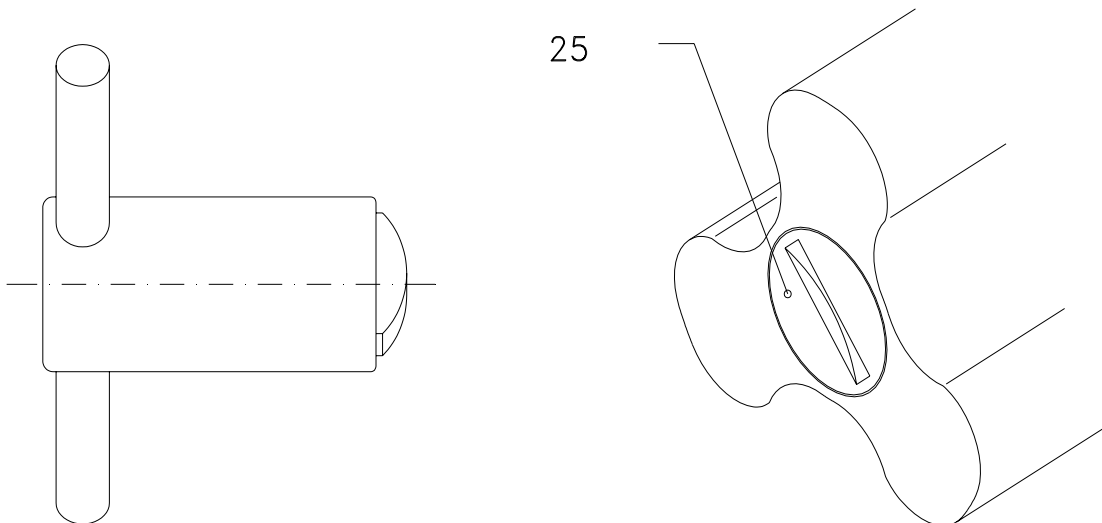
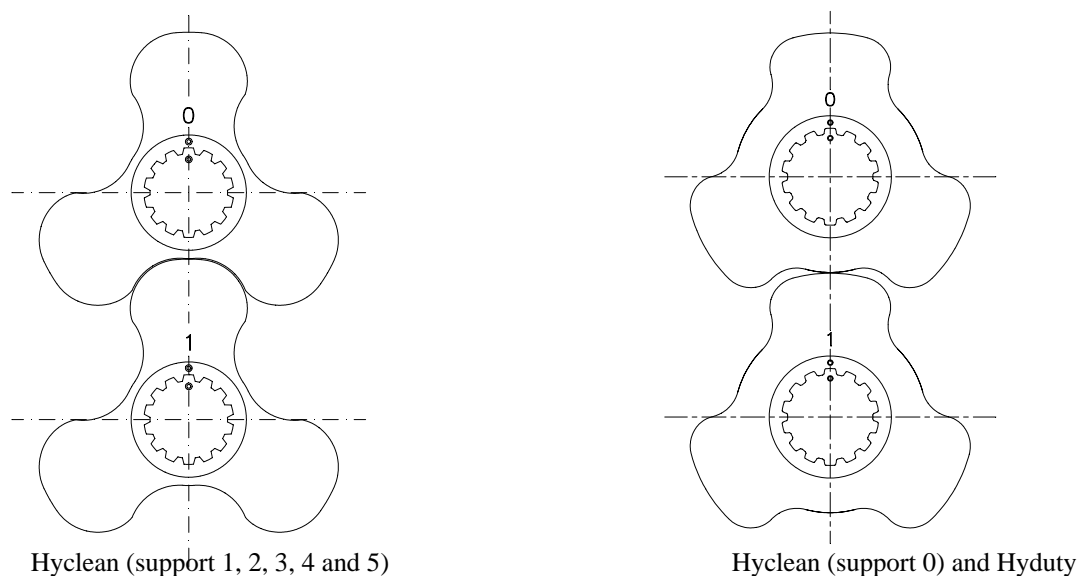

Figure 8.1: Wrench
Figure 8.4
- Remove the lobe screws (25) using a wrench, as shown in figure 8.1. These screws are threaded to the right. Wooden or nylon blocks can be placed between the lobes to stop them from rotation (blocks position: one to the left in front of the top lobe screw and the other to the right in front of the lower lobe screw).
- Check that the O-ring (80) is in good condition.
- Slide the lobes onto the shafts as far as the shaft sleeve. Observe the markings (0 - 1 and ●); see figure 8.4.
- Check that the O-rings (80) of the lobe screws (25) are still in a good condition and that they are correctly positioned in the groove.
- Fit the lobes with the screws (25) and the washers (35). Tighten the screws with a wrench as shown in figure 8.1. A wooden or nylon block can be placed between the lobes to avoid that they rotate simultaneously.
- Slide the lobes onto the shafts as shown in figure 8.4. Press the lobes against the shaft liner.